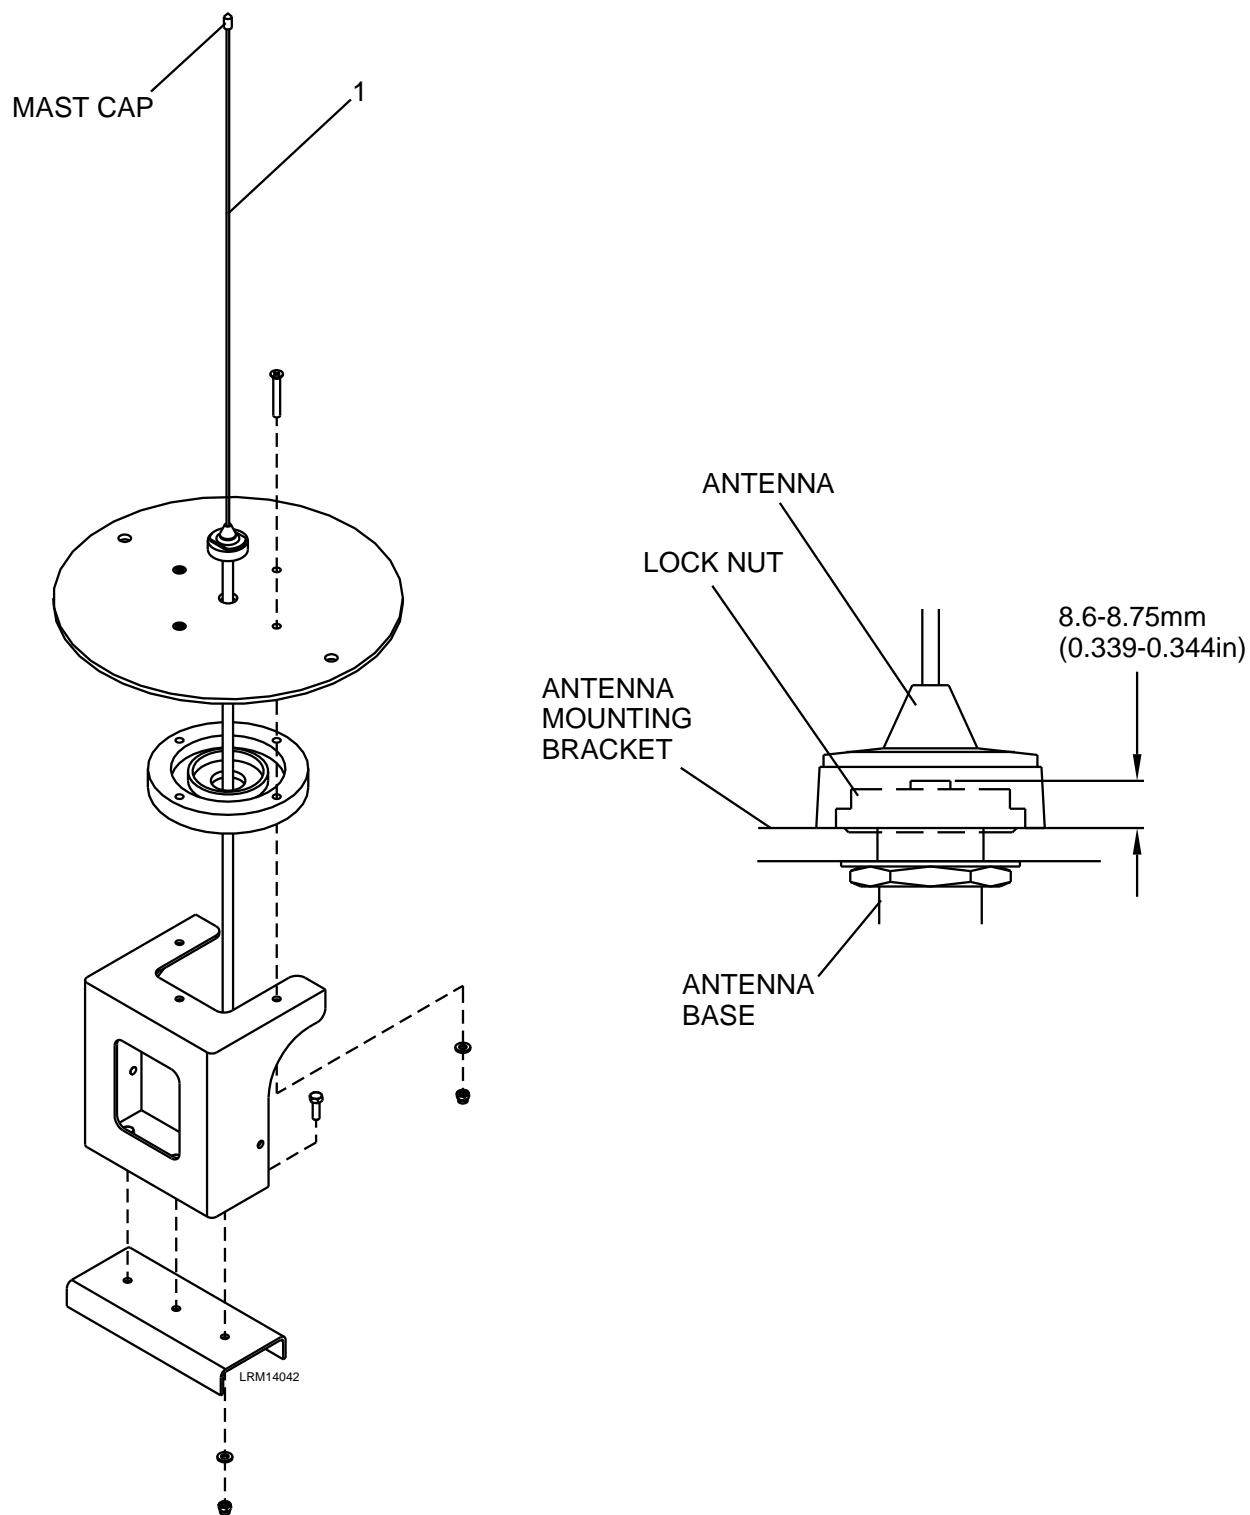

Figure 8-16: Radio Antenna
1. Remove the radio antenna (1) by turning it counterclockwise. See Figure 8-16.